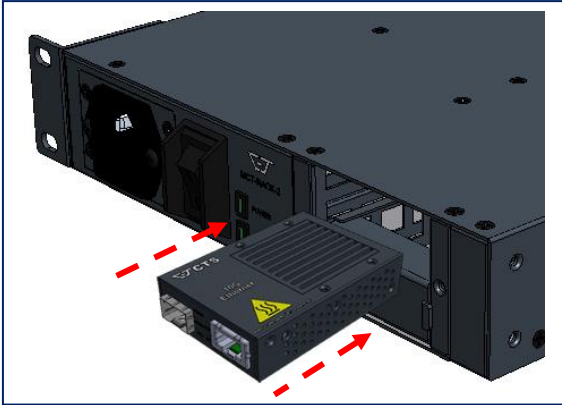
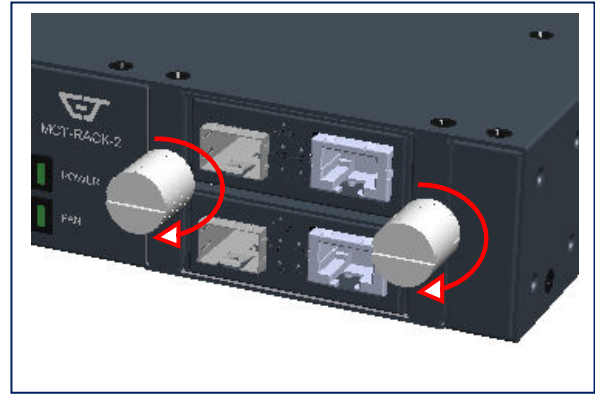

Figure 2-3
Figure 2-4
- ❹ Slide the media converter module fully into the bottom of selected slot to make sure that this module is firmly connected with the connector inside of the converter slot. (See Fig. 2-3.)
- ❺ Repeat Step 3~Step 4 for the installation of the other media converter module if needed.
- ❻ Fasten the fastening knobs clockwise to fix the media converter module(s). (See Fig. 2-4.)